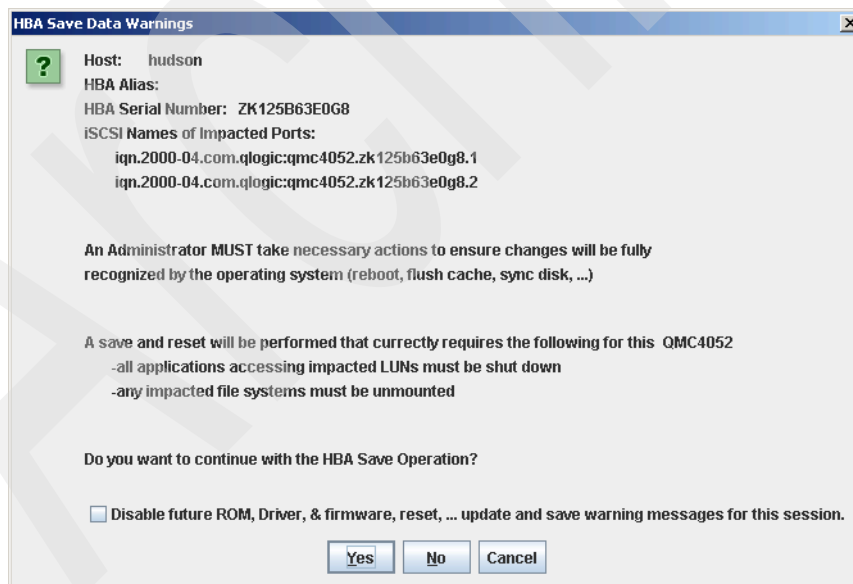

Figure 21-39 SANsurfer - HBA save data warning
3. An address configuration requires the adapter to be reset. Figure 21-39 shows the warning that applications accessing logical drives attached to this adapter need to be unmounted first. Click **Yes** to acknowledge.
9. An address configuration requires a reset of the adapter. A warning is shown that applications accessing logical drives that might be attached to this adapter need to be unmounted first. Click **Yes**. See Figure 21-39 on page 505.